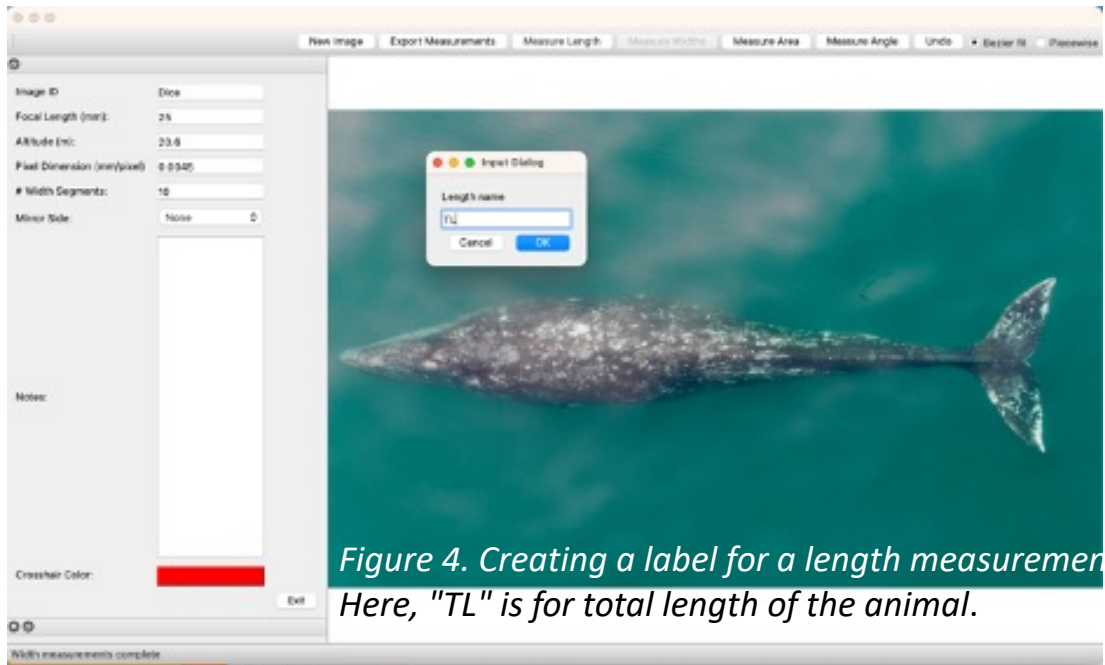

Figure 4. Creating a label for a length measurement. Here, "TL" is for total length of the animal.
- The user can label each measurement with a unique name (i.e., “Total Length”, “TL”) (Figure 4).